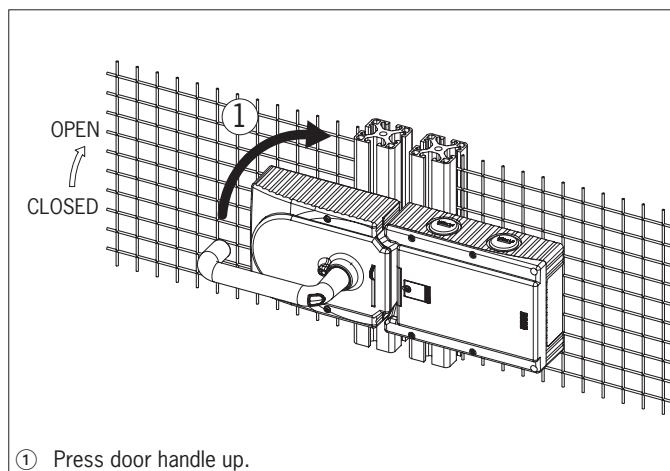
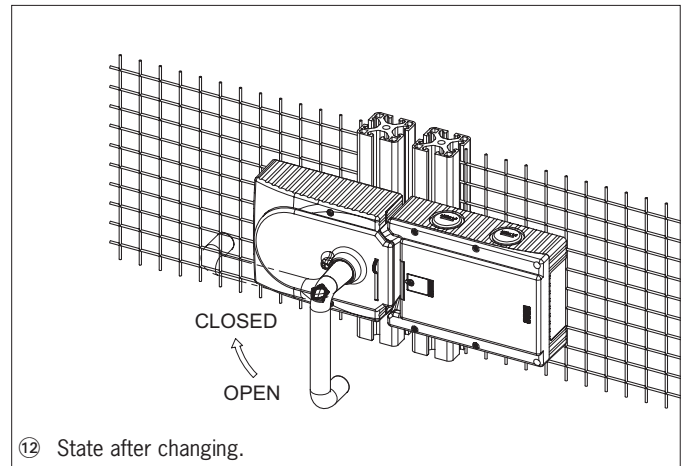

Figure 10: Changing actuating direction, step ①
Figure 15: Changing actuating direction, final state
For mounting steps, see *Figure 9* and *Figure 10* to *Figure 15*.
- The system is mounted the other way around for doors hinged on the left. In other words, the guard opens by pressing up the door handle (see *Figure 10*). For this reason, the actuating direction of the door handle must be changed (see *Figure 10* to *Figure 15*).